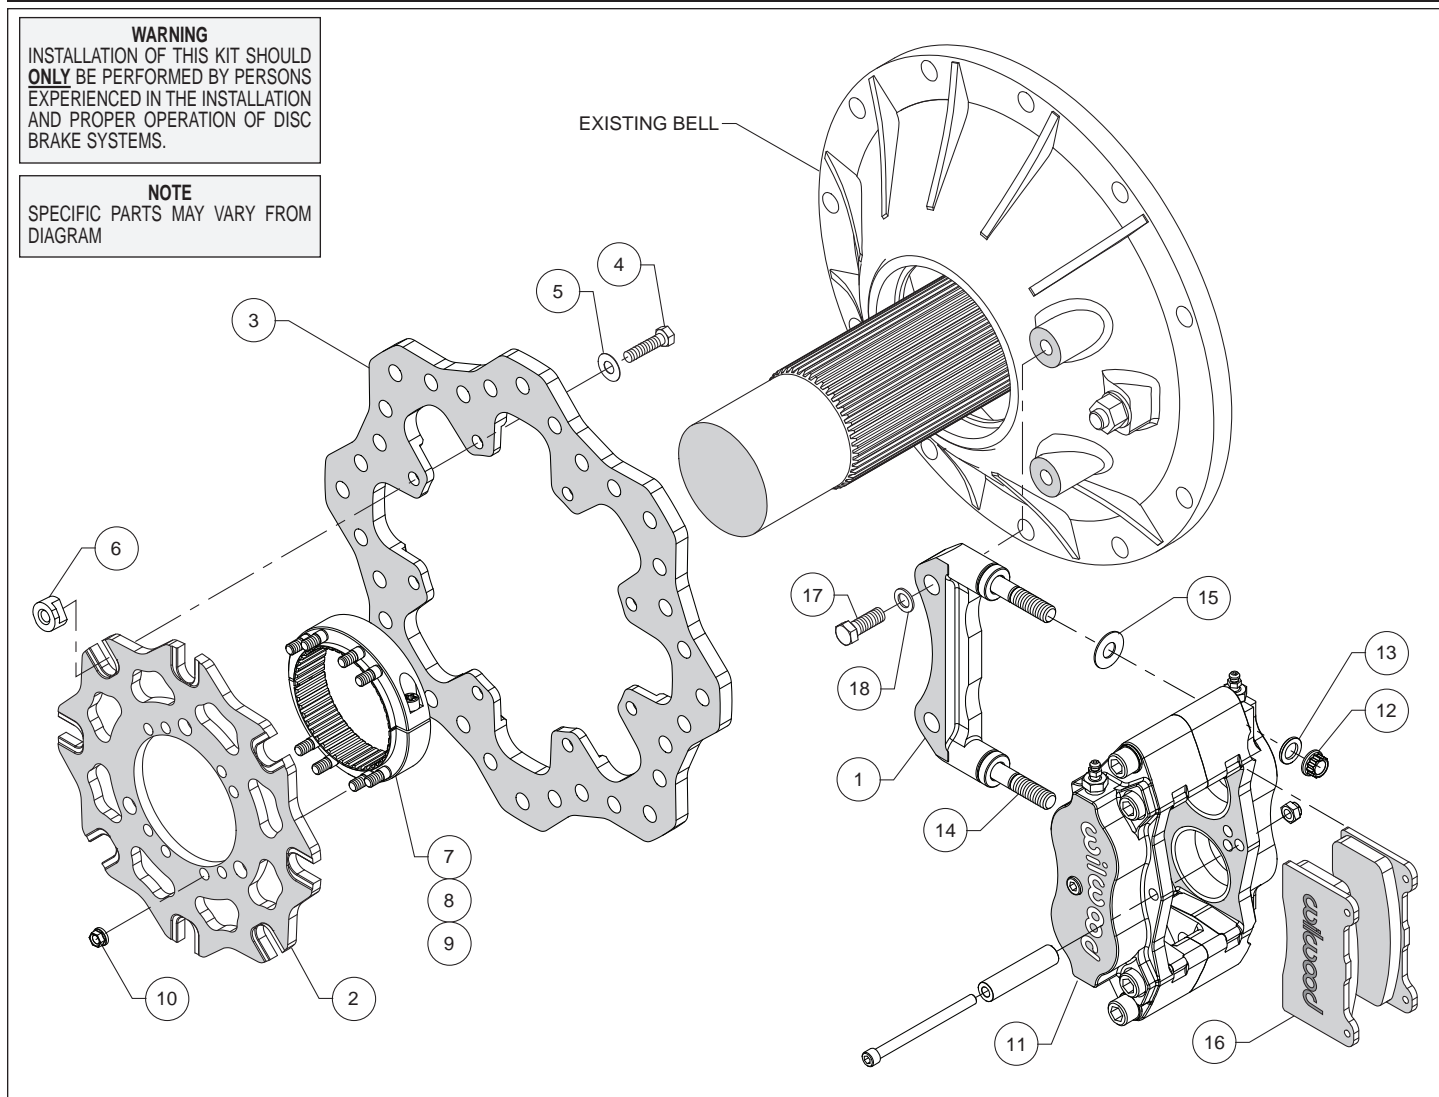

Figure 1. Typical Installation Configuration
• Orient the caliper mount bracket (1) as shown in Figure 1 and install using bolts (17) and washers (18). Temporarily tighten the mounting bolts. **NOTE:** The bracket must fit squarely against the mount bosses on the bell. Inspect for interference from casting irregularities, machining ridges, burrs, etc. Remove the bracket mounting bolts one at a time, apply red *Loctite*® 271 to the threads, and torque to 60 ft-lb.
• Orient the rotor adapter (2) and the rotor (3), as shown in Figure 1, and attach using bolts (4), washers (5) and t-nuts (6), Figure 1. Apply red *Loctite*® 271 to the bolt threads before installing. Finger tighten. After all t-nuts have been installed, torque bolts in an alternating sequence to 220 in-lbs. Please refer to Wilwood's data sheet DS-669 (available at www.wilwood.com/Pdf/DataSheets/ds669.pdf) for complete t-nut bolt kit installation instructions. **NOTE:** Rotor adapter may be fix mounted to rotor (instead of floating mount) using customer supplied hardware.
- Orient the axle clamp assembly (7, 8 and 9, pre-assembled) as shown in Figure 1 and install onto the rotor adapter (2) using nuts (10). Tighten nuts part way while still allowing clamp-to-adapter movement. The nuts will be torqued later, after aligning the rotor.
- Lubricate the caliper mounting studs (14) with lightweight oil. Initially place one .030" thick shim (15) on each stud as shown in Figure 1. Mount the caliper (11) onto the bracket (1) using lock nuts (12) and washers (13), Figure 1. Temporarily tighten the lock nuts and view the rotor through the top opening of the caliper. The rotor should be centered in the caliper. If not, slide the rotor/adapter assembly on the axle until the rotor is centered in the caliper. Tighten the clamp bolts (9) first, locking the clamp to the axle. Torque nuts (10) to 140 in-lbs.
- Remove the caliper center bridge pad retainer bolt, nut, and tube from the caliper. Insert the brake pads (16) into the caliper, with the friction material facing the rotor. Check that the top of the brake pad is flush with the outside diameter of the rotor. If not, adjust by adding or subtracting shims (15) between the caliper and the bracket. After the caliper pad height is set, torque the caliper lock nuts (12) to 30 ft-lb. Secure the brake pads in place with the center bridge pad retainer tube, bolt, and locknut. The locknut should be snug without play in the bolt or tube. Be cautious not to over tighten.